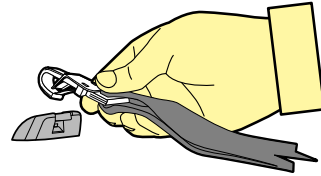

Figure 7
**Step 5:** Hook the attachment clip to the anchor fitting. **Ensure there are no twists in the top tether strap** (refer to Figure 7).